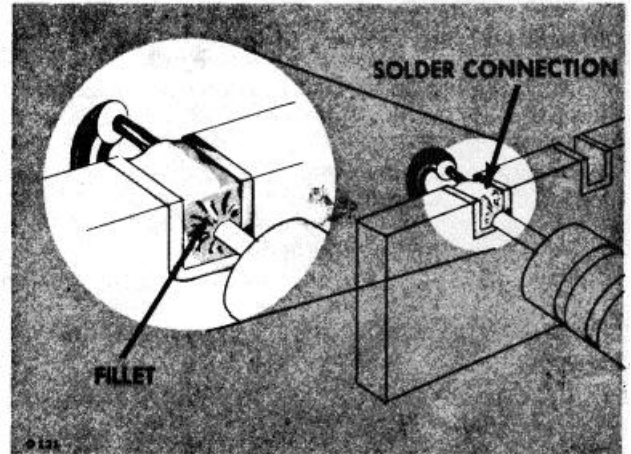
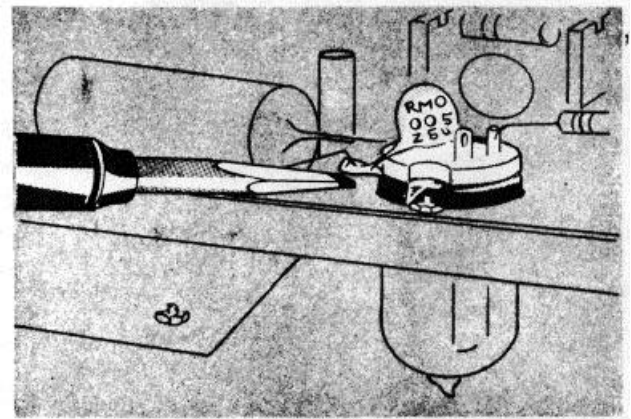

Fig. 5-5. A slight fillet of solder is formed around the wire when heat is applied correctly.
Fig. 5-6. Soldering to a terminal. Note the slight fillet of solder—exaggerated for clarity—formed around the wire.
6. Do not attempt to fill the notch on the strip with solder; instead, apply only enough solder to cover the wires adequately, and to form a slight fillet on the wire as shown in Fig. 5-5.
In soldering to metal terminals (for example, pins on a tube socket) a slightly different technique should be employed. Prepare the iron as outlined above, but tin with ordinary tin-lead solder. Apply the iron to the part to be soldered as shown in Fig. 5-6. Use only enough heat to allow the solder to flow freely along the wire so that a slight fillet will be formed as shown in Figure 5-5.